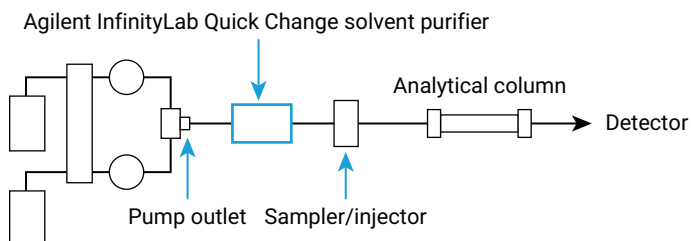

Figure 3. Schematic representation of an HPLC flow path and the position of the Agilent InfinityLab Quick Change solvent purifier.
- It is highly recommended to position the solvent purifier between the pump's outlet (behind the point of gradient mixing) and the sample injector (see Figure 3).